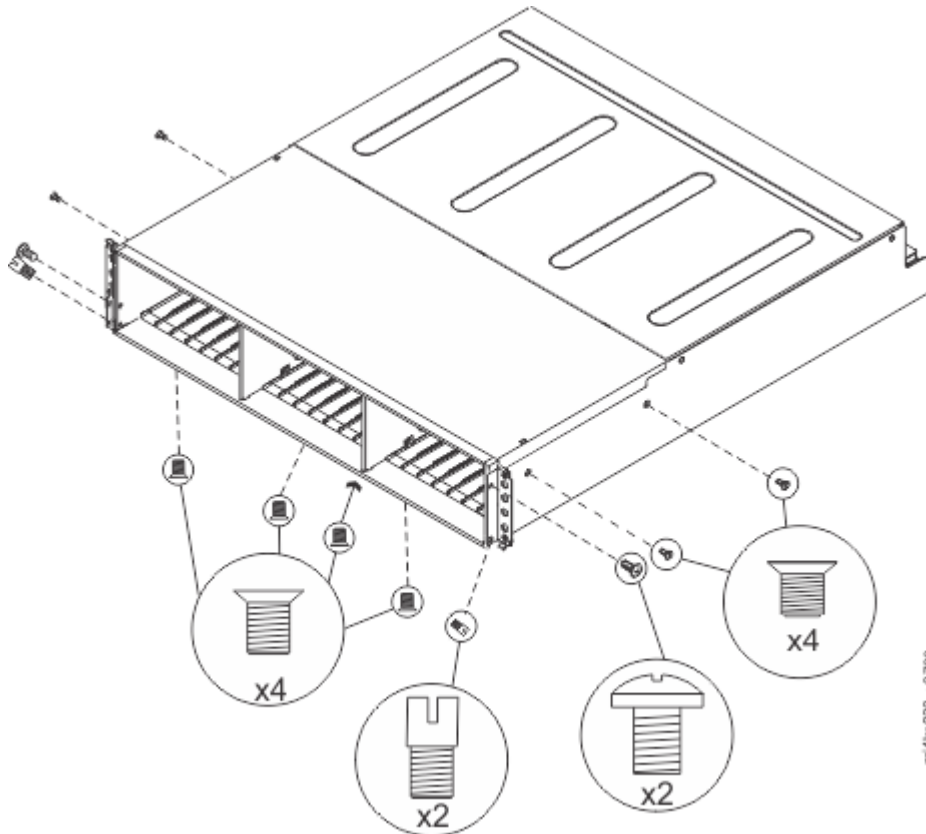

Figure 107. Removing the screws of an expansion enclosure assembly
12. Remove the four screws from the bottom of the enclosure (see Figure 107 on page 164). Remove the three screws that are near the front and the screw that is near the middle. Label these screws to indicate the location from which they are removed and place them aside.
14. Remove the three screws and one screw-pin on the right side that secure the midplane assembly to the enclosure (see Figure 107 on page 164). Label the screws to indicate the location from which they are removed and place them aside.
15. Remove the three screws and one screw-pin on the left side that secure the midplane assembly to the enclosure (see Figure 107 on page 164). Label the screws to indicate the location from which they are removed and place them aside. See Figure 4.